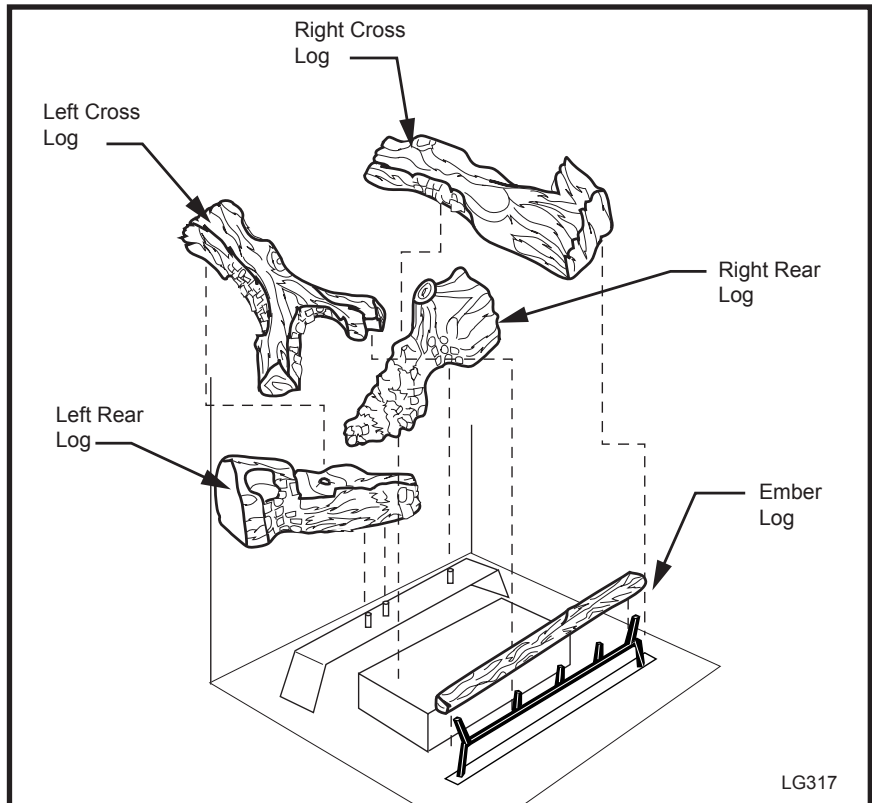

Fig. 13 ODGSR36 log placement.
2. Place left rear log on rear log support. Ensure that log is firmly positioned and there is no side-to-side movement. (Figs. 13 & 14)
3. Carefully place Ember Log between grate and burner. (Figs. 13 & 14)
5. Place the top logs onto the locator notches. Ensure the logs are secure. (Fig. 13 & 14)